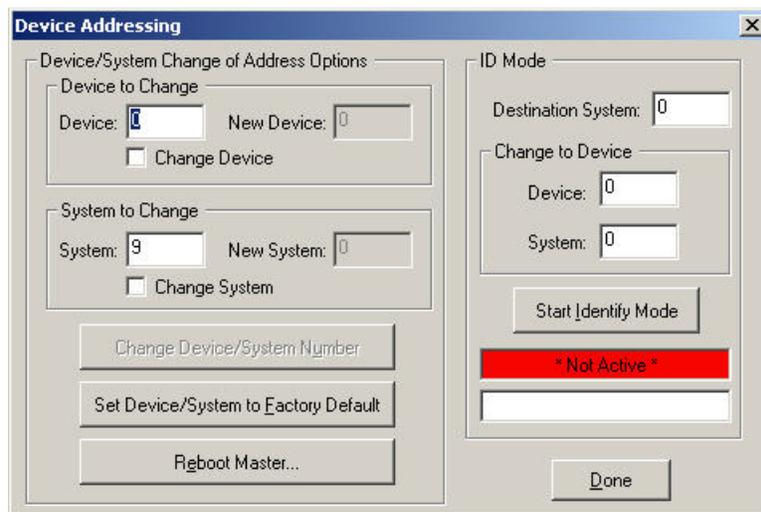

FIG. 18 Device Addressing dialog
1. Access the *Device Addressing* dialog (FIG. 18) by selecting **Diagnostics > Device Addressing**.